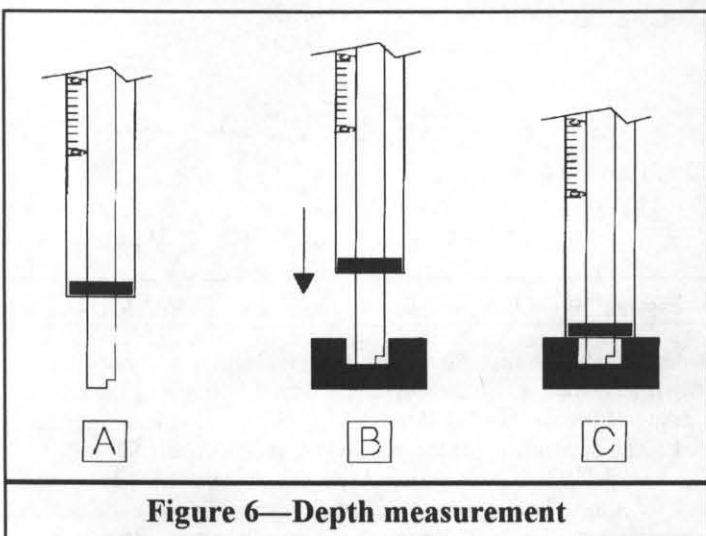

Figure 6—Depth measurement
jaws at B are used to measure outer dimensions, such as thickness, length, etc. Inner dimensions, such as hole diameters and slot openings, are measured at A, and C is used for depth measurement. Figure 6 shows the latter in more detail; extend the center beam from the body (A), insert the end into the hole or cavity and push down on the body (B) until the end is flush with the surface (C).